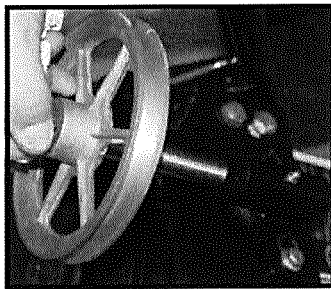
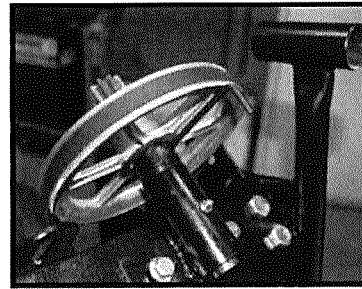

Fig.17: Correct placement of jackshaft (WITHOUT JACKSHAFT)
Fig.18: Incorrect positioning of lock ring for jack shaft.
4. Slide jackshaft and drive pulley into jackshaft plate on the drum support beam. ENSURE THAT THE LOCK RING IS REMOVED FROM JACKSHAFT. (Fig.17). Fig. 18 shows the incorrect positioning of the lock ring.